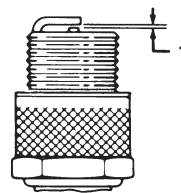

Figure 32
5. Set the gap on the plug to 0.030 in. (0.76 mm) (Fig. 32).